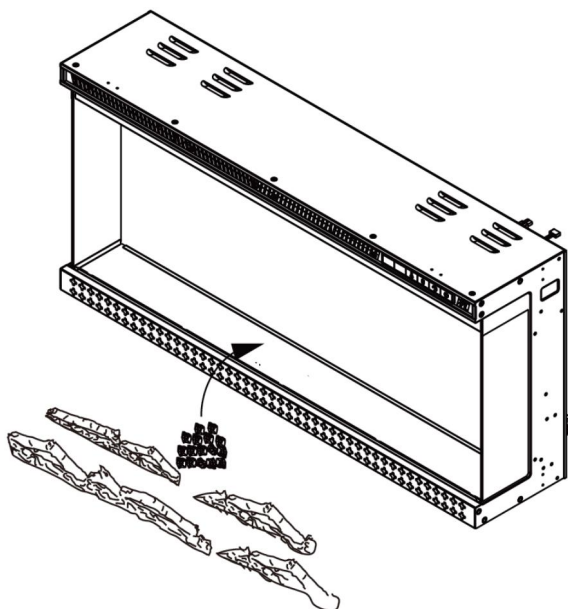

Fig5
5.Place decorative crystals and faux firewood inside the fireplace, see Fig.5